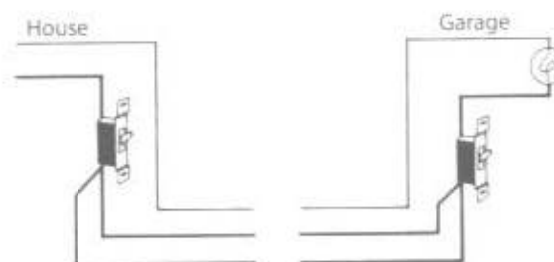

Fig. 10-18 Diagram for garage light fed by 3 wires from house with 3-way switch at each end.
**Wiring for lighting and receptacles** For a light in a garage or accessory building that can be controlled both there and at the house, three wires need to be run from the house and a three-way switch installed at each end, wired as shown in the basic diagram of Fig. 10-18 on the next page.